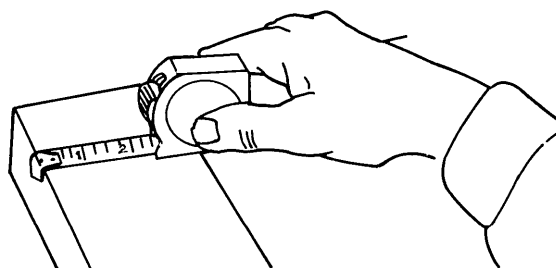

Figure 3-8. Typical Tapes
a. Tapes. There are several kinds and lengths of tapes, but the one most often used is 6 feet long and made of flexible steel. It is coiled in a circular case and may or may not have one end fastened permanently to the case. It is graduated on one side only in $1/16$ and $1/32$ inch divisions. A small lip on the end prevents the tape from sliding completely inside the case and also easily lines up the end of the tape with the end of a piece of stock. Examples of typical tapes are shown in Figure 3-8.